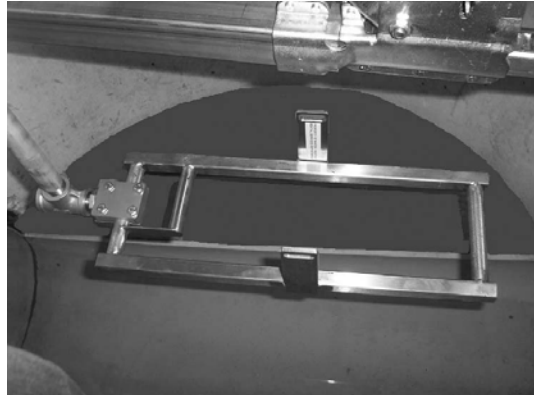

Figure 2
- B) Assemble the frame, clamp-set, bushing, tee, and extension as shown in figure 2. Position the frame as close as possible to the lip of the pipe by sliding the assembly along the jack-bar with the slide. Be sure to secure the set-screw.